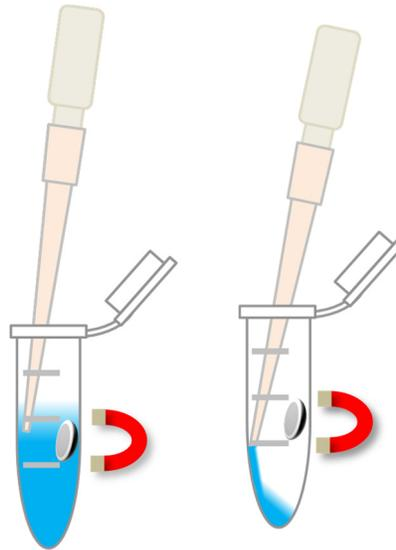

Figure 5. Pipetting procedure for removal (left) and addition (right) of liquid during wash steps. Avoid disrupting the Nanobind disk and
When removing liquid from the 1.5 mL microcentrifuge tube, the Nanobind disk should not be disturbed. Carefully insert the pipette tip against the wall opposite the Nanobind disk and remove liquid by pipetting from the liquid surface (**Figure 5**). This will minimize the chances of accidentally pipetting bound DNA. Likewise, when adding liquid, dispense into the bottom of the tube or against the wall opposite the Nanobind disk.
11. Discard the supernatant with a pipette using the procedure described in Figure 5, taking care to avoid pipetting the DNA or contacting the Nanobind disk.